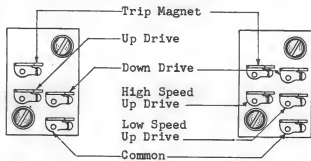

Fig. 1 -
1.17 Terminal Designations - Figs. 1, 2, and 3: The terminal designations of 1, 2 and 3 type clutches are shown in the accompanying figures. On 4, 5, 6 and 7 type clutches, the terminal designations appear on the terminal block.